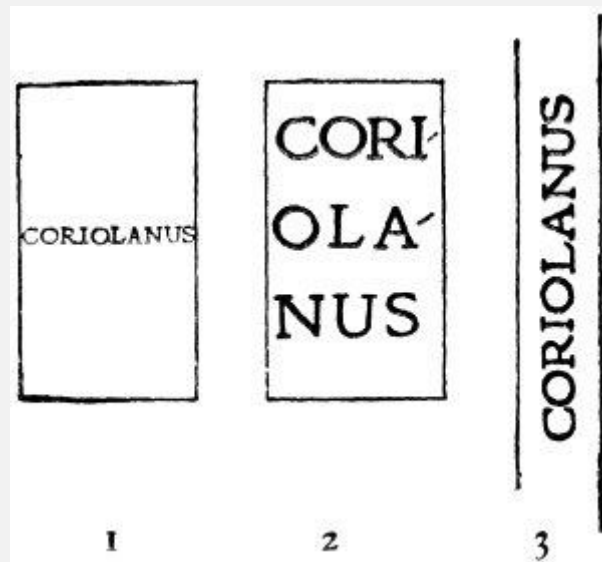

Fig. 95.
As a general rule, lettering looks best if it comfortably fills the panel, but of course it cannot always be made to do this. The greatest difficulty will be found in making titles of books that consist of a single word, look well. Thus if you have "CORIOLANUS" to place on a back which is not more than  $\frac{5}{8}$ -inch wide, if it is put across as one word, as at fig. 95 (1), it will be illegible from the smallness of the type, and will tell merely as a gold line at a little distance. If a reasonably large type is used, the word must be